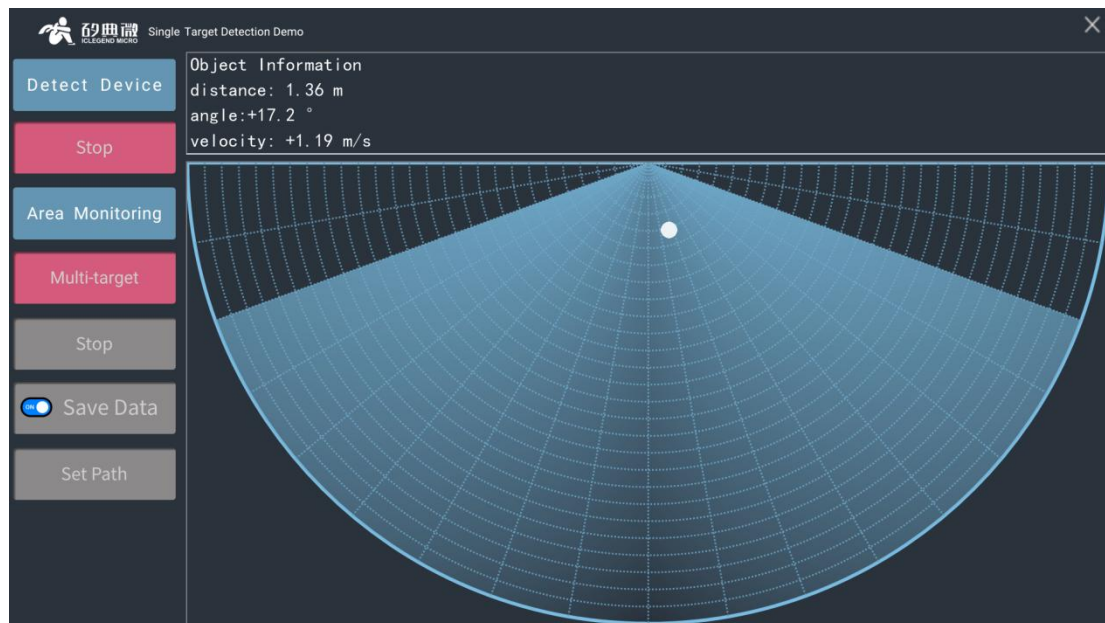

Figure 2.2.2 Single-target Detection Demo
Step 3: Click the “Start/Stop” toggle to display the position of the target relative to the radar, as shown in Figure 2.2.2.